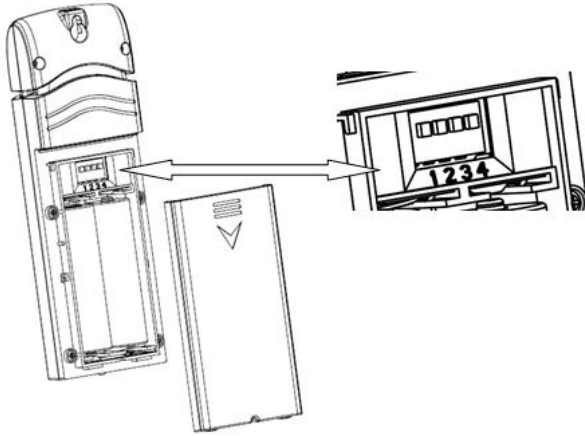

Figure 14: Battery installation for Multi-channel sensor
1. Remove the battery door on the back of the transmitter(s) by sliding down the battery door, as shown in Figure 14 .